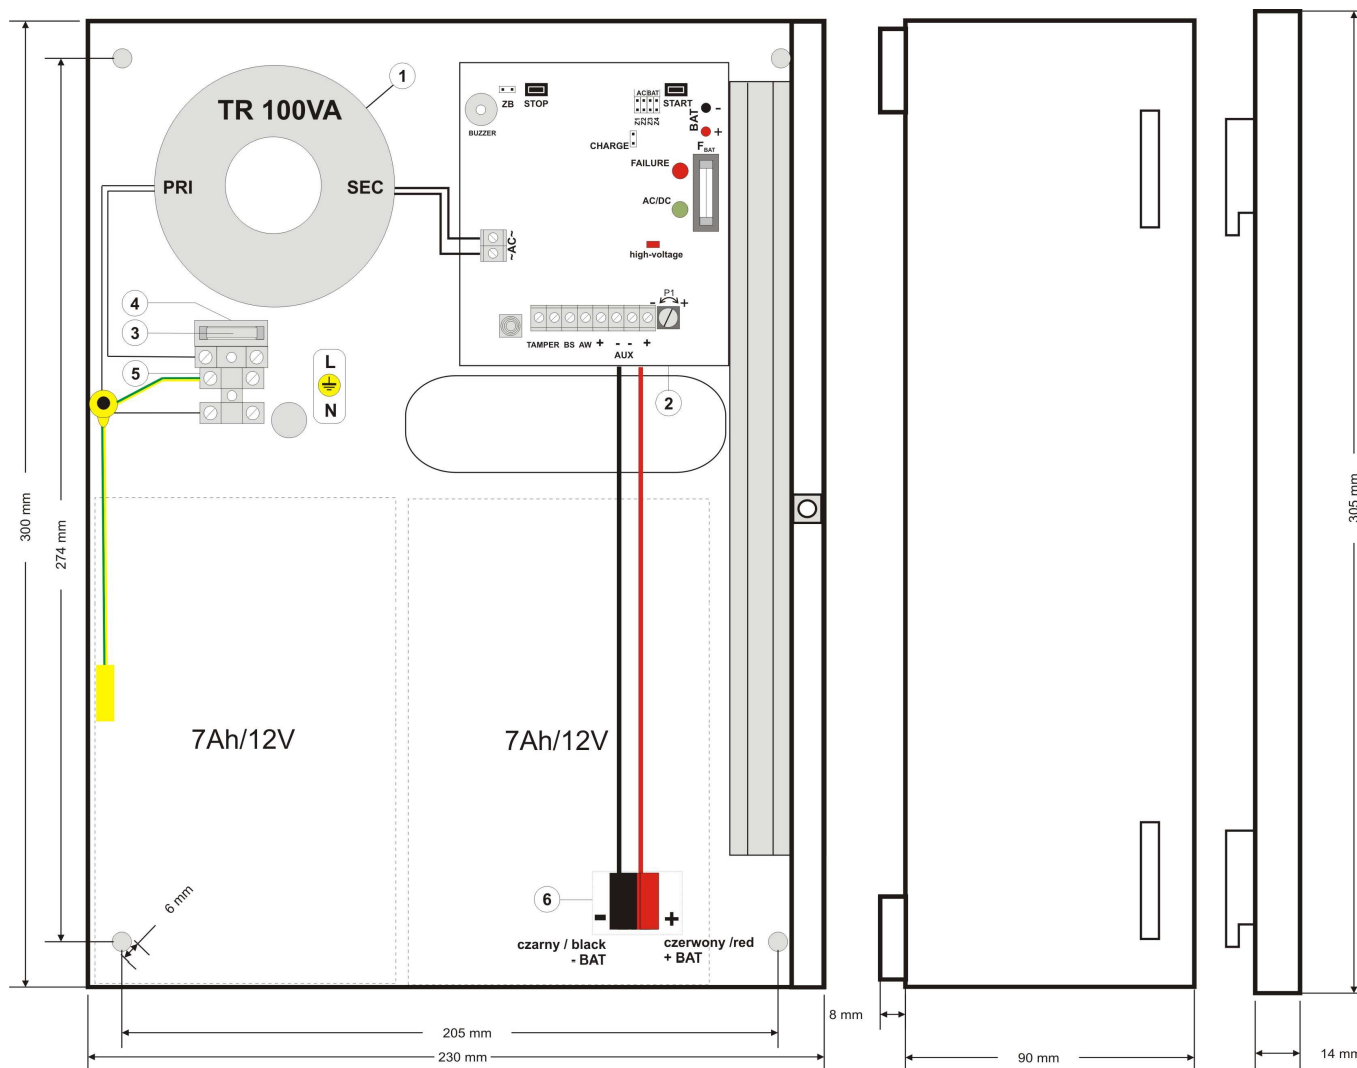

Fig. 3. The view of the PSU.
**Table 2. Elements of the PSU (see Fig. 3.)**
| Enclosure dimensions | 235x 305 x 98 (Rys.3) WxHxD   |
| Fixing               | 205 x 275, Φ 6 (Rys.3) WxH  |